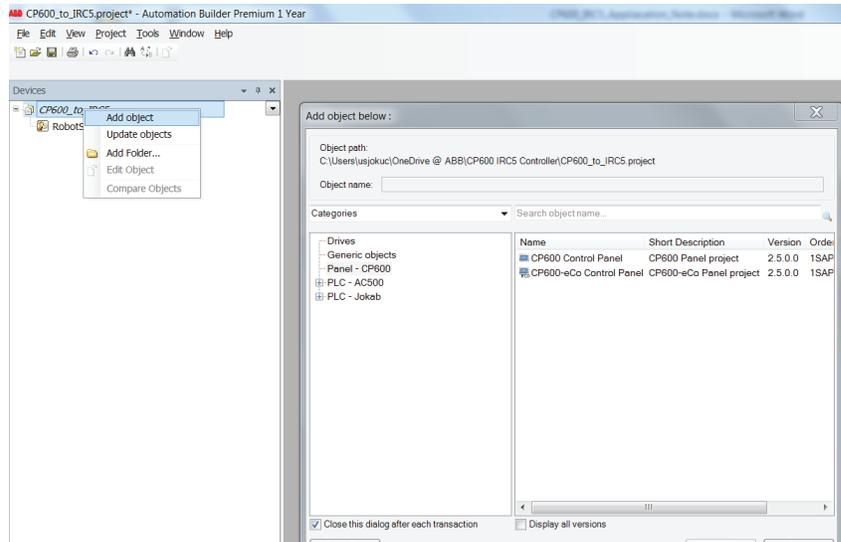

Figure 3- Creating a new Panel Builder project within Automation Builder.
1. If using Panel Builder 600 stand-alone software package to create your HMI then create a new project and proceed to step 4.3. Otherwise, from within Automation Builder create a new **CP600** project by right-clicking project name at the top of the **Devices** tree and adding a new **CP600** or **CP600-eCo** object as shown in Figure 3.